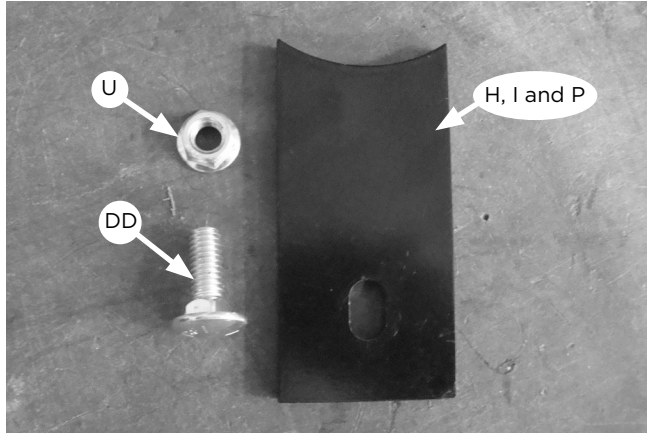
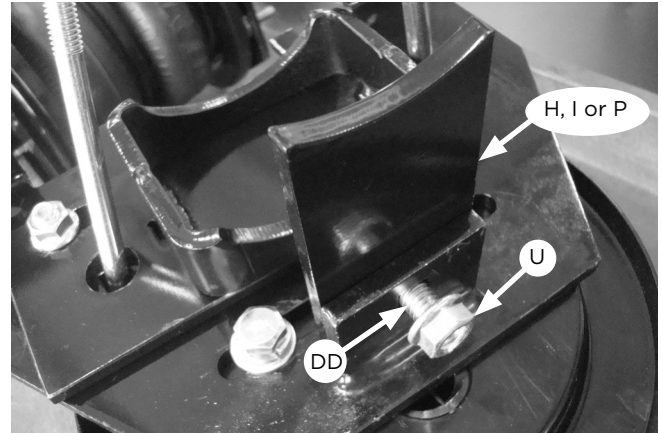

Fig. 14
Fig. 15
- Select the appropriate leg adapter for the specific vehicle, as noted in the chart. Use Tremor adapter (H) for Tremor models. For non-Tremor models, use the 3.5" (I) or 4" (P) adapter, depending on what the vehicle has for the axle diameter. Attach the appropriate adapter with a 3/8"-16 x 1" carriage bolt (DD) and 3/8" serrated flange lock nut (U) (Fig. 14). Install as shown (Fig. 15). Push adapter against the lower bracket and torque the hardware to 16 lb.-ft. (14Nm).